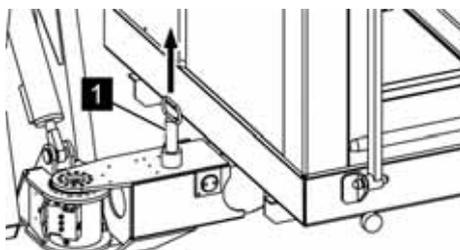

Fig. 84: Pull out the fastening bolts
5. ➤ Pull the fastening bolts (Fig. 84/1) as far upwards as possible.